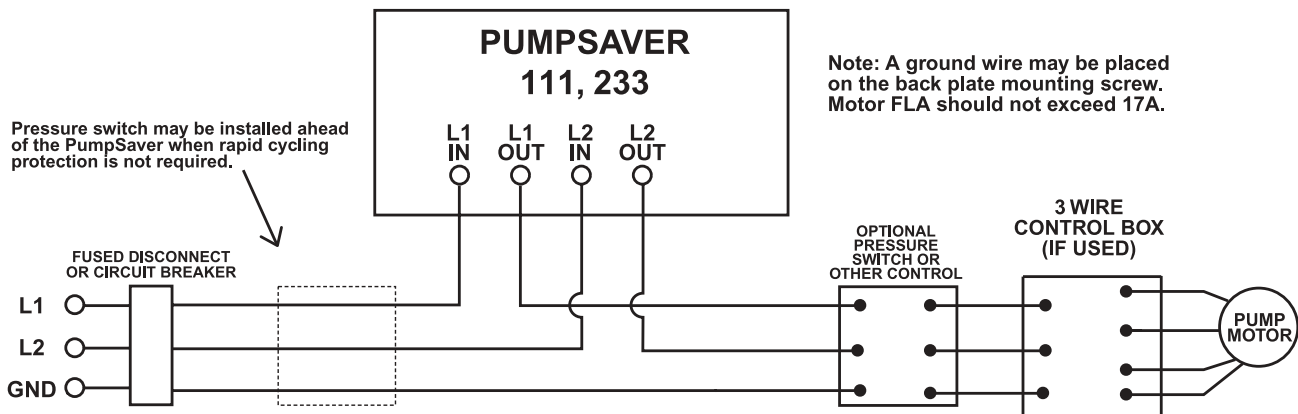
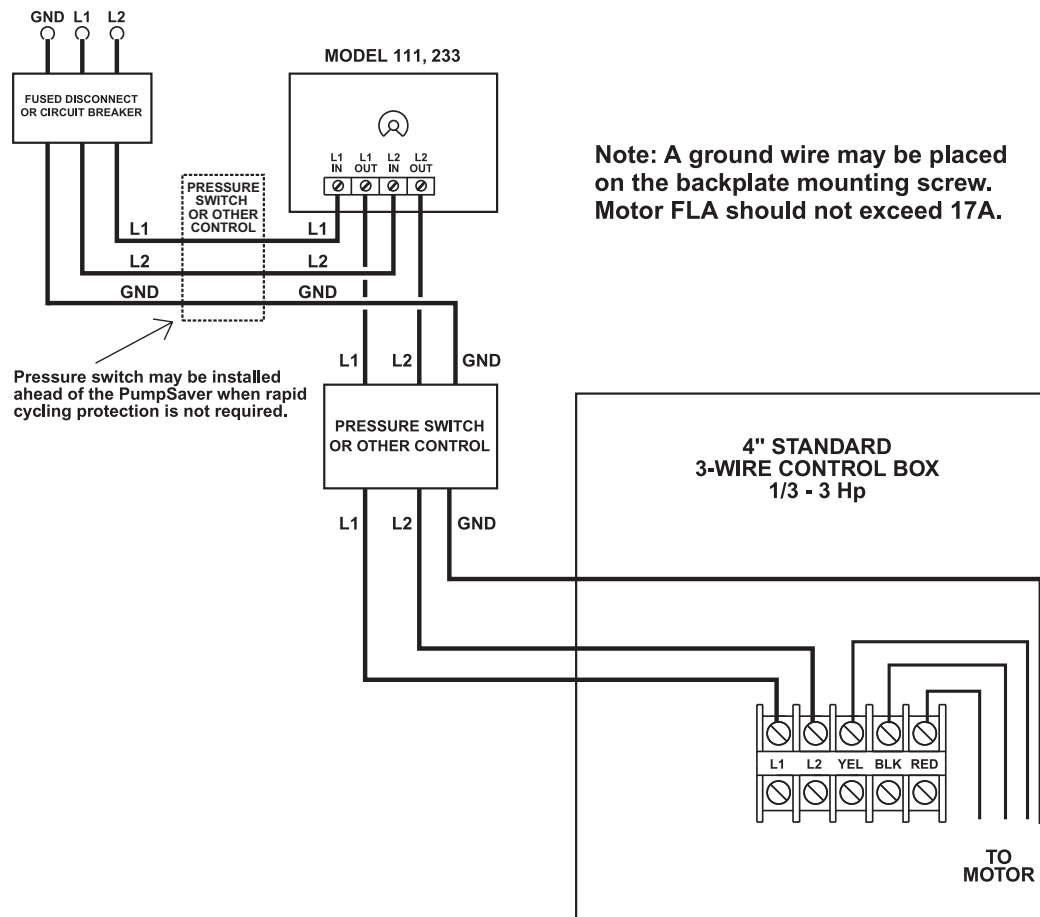
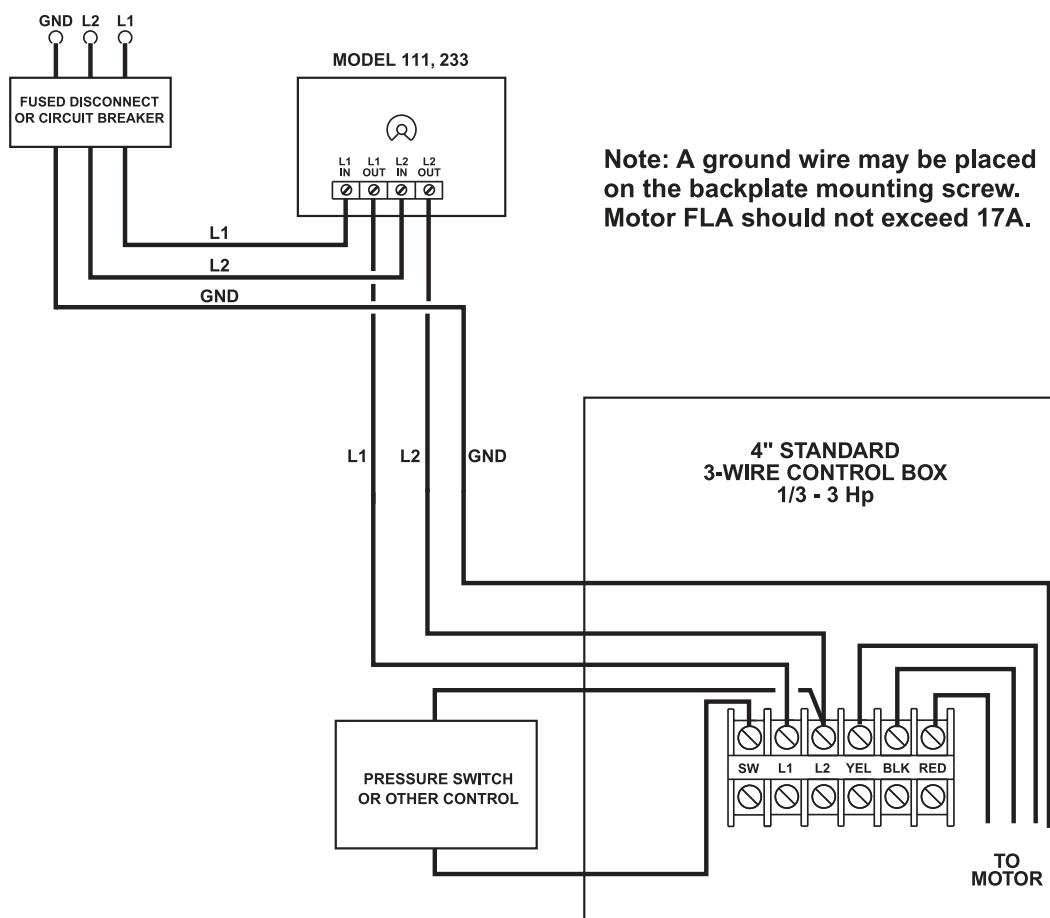
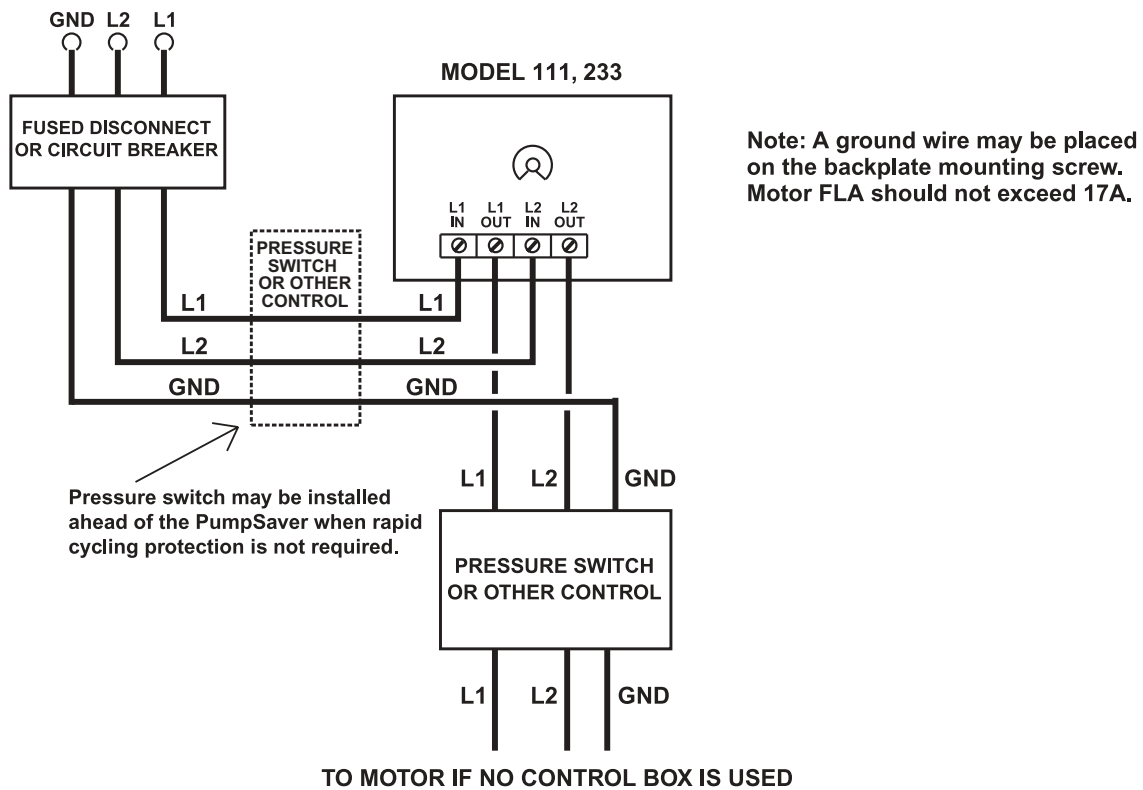

Figure No. 1: Typical Wiring Diagram for Models 111 and 233.
Figure No. 2: Standard Control Box
Figure No. 3: Deluxe Control Box
Figure No. 4: 2-Wire Pump Application
2. Connect one line from the fused disconnect to PumpSaver's L1 IN terminal on the terminal strip. Run a wire from the "L1 OUT" terminal to other in-line controls such as a pressure switch. See Figure No. 1.
3. Connect the other line from the fused disconnect to PumpSaver's L2 IN terminal on the terminal strip. Run a wire from the "L2 OUT" terminal to other in-line controls such as a pressure switch. See Figure No. 1.
4. See Figure No. 1 for Electrical Diagram. See Figure No. 2 for Mechanical wiring diagram for standard 3 wire control boxes. See Figure No. 3 for Mechanical wiring diagram for Deluxe control boxes. See Figure No. 4 for Mechanical wiring diagram for direct feed of 2-wire pumps.